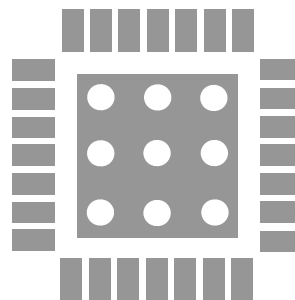
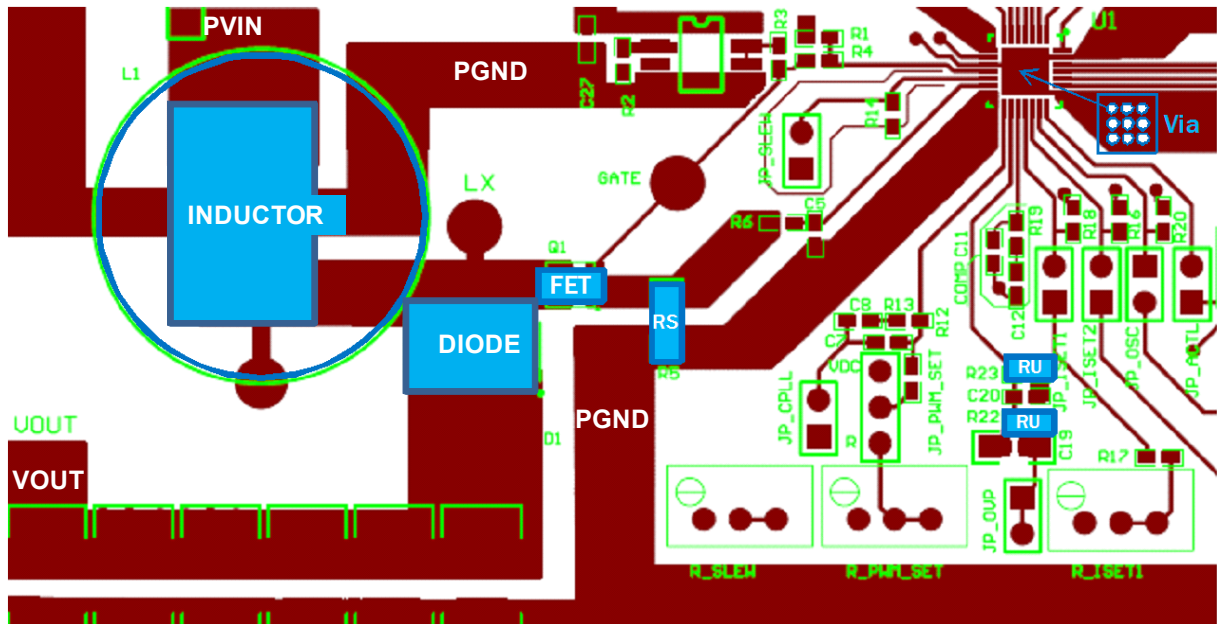

FIGURE 22. ISL97686 TQFN PCB VIA PATTERN
FIGURE 23. EXAMPLE OF TWO LAYER PCB LAYOUT
2. Figure 23 shows important traces of current sensor (RS) and OVP resistors (RU, RL). The current sensor track line should be short, so that it remains as close as possible to the Current Sense (CS) pin. Additionally, the CS pin is referenced from the adjacent PGND pin. It is extremely important that this PGND pin is placed with a good reference to the bottom of the sense resistor. In Figure 22 you can see that this ground pin is not connected to the thermal pad, but instead used to effectively sense the voltage at the bottom of the current sense resistor. However, this pin also takes the gate driver current, so it must still have a wide connection and a good connection back from the sense resistor to the star ground. Also, the RC filter on CS should be placed referenced to this PGND pin and be close to the chip.
Figure 22 shows an example of how to use vias to remove heat from the IC. We recommend you fill the thermal pad area with vias. A typical via array would be to fill the thermal pad foot print with vias spaced such that the centre to centre spacing is three times the radius of the via. Keep the vias small, but not so small that their inside diameter prevents solder wicking through the holes during reflow.
2. All ground pads for input caps, current sensor, output caps should be close to the PGND pin adjacent to the CS pin of ISL97686 with wide metal connection shown in Figure 23. This guarantees a low differential voltage between these critical points.